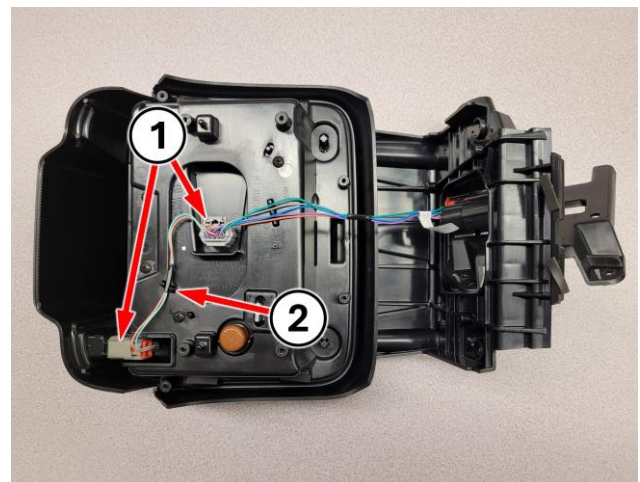

Figure 13 – Lamp Electrical Connectors
NOTE: Pay attention to the wire harness routing (2) so lamp can be reassembled without pinching any wires (Figure 13).
12. **NEW lamp:** Disconnect the two electrical connectors (1) from the lamp (Figure 13).